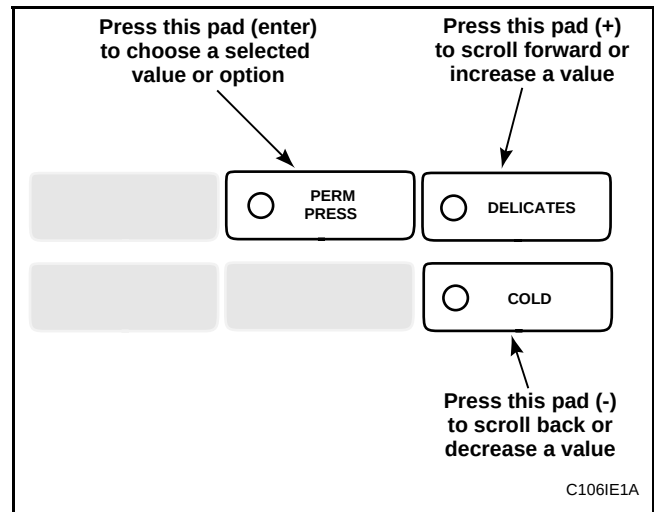

Figure 57
5. Press the DELICATES (+) or the COLD (-) keypad to increase or decrease the current number of minutes displayed in the VFD to the desired number of minutes. See **Figure 57**.